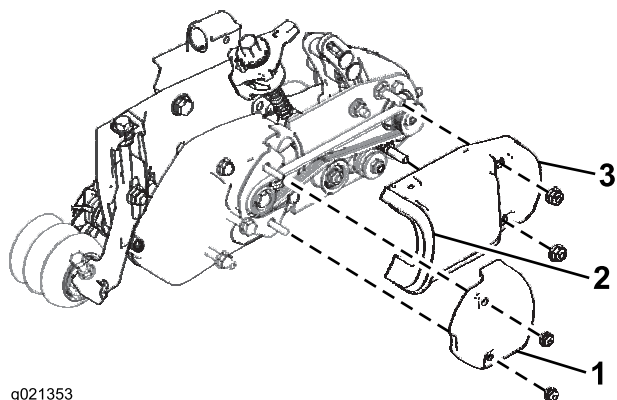

Figure 14
2. Install the groomer access cover (Figure 14).